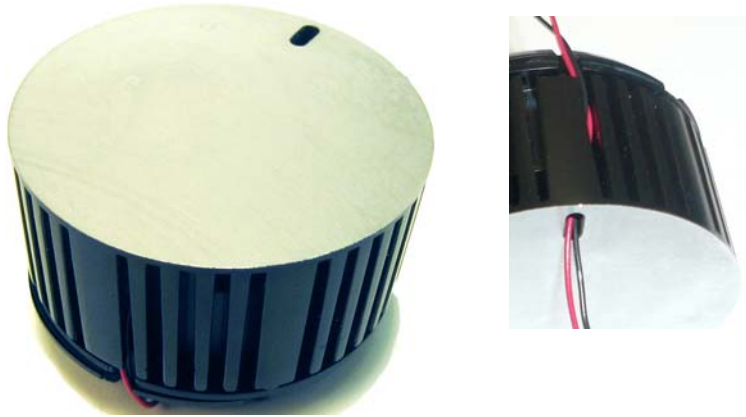

Figure 6: Heat Sink Face - Center Area for LED Attachment
- Feed the LED power wires through the hole in the heat sink face and through the passage to the exit notch in the cooler cover. They exit on the opposite side from the SynJet wiring. LED power wire routing is shown in Figure 6 and in Figure 7.
Figure 6 shows the center of the heat sink face used to attach the LED. It also shows the wire routing from the LED through the SynJet PAR20 LED Cooler housing tunnel to the LED driver card.